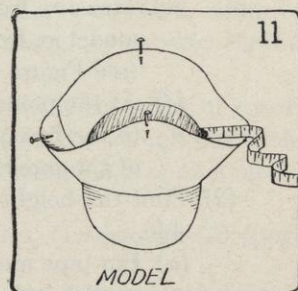
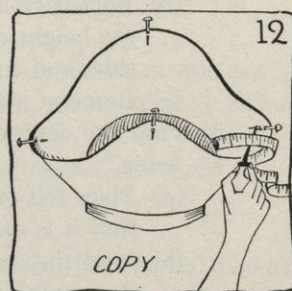

FIG. 11.
FIG. 12.
- Measure from the headsize out towards the edge on the crinoline model, as in Figure 11, and measure an equal distance on felt brim, as in Figure 12, and put a pin.
(1) Read all of Section 3 *n* (1) through (4) and *o* of Job 7 (pages 29 and 30) and follow the sections most needed, but use *chalk* instead of pencil marks. Remember to *allow* enough if you want straw edge turned in (see Figures 12 and 13 A and B, page 58).
(2) Be sure to show your work to your teacher.
- a. Sew felt brim or coronet to crown. Follow either Section (1) or Section (2).
- (1) Use invisible stitches.
- c. Cut the felt edge until the line is perfect, but plan either to bind straw edge (see Jobs 16, 17, and 18, pages 67 through 78) or to allow enough straw to turn it in once or twice (see Figures 12 and 13 A and B, page 58).
- (1) In all probability the raw edge at the headsize will have to either be bound (see Jobs 16, 17 and 18, pages 67 through 78), or have a ribbon trimming put over it, after the headsize is sewed with $\frac{1}{2}$ -inch back stitches.